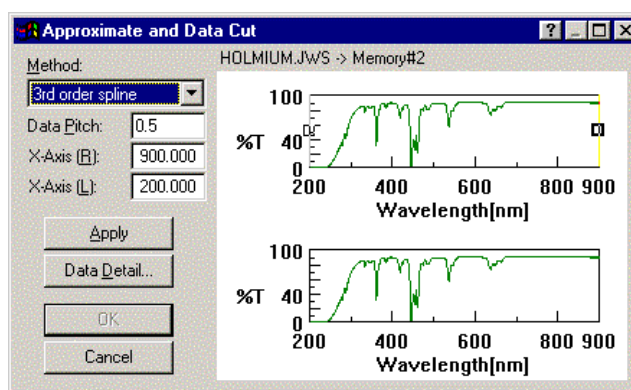

Fig 2.27 [Approximate and Data Cut] dialog box
*Note: Figure 2.27 shows spectra before execution of data interpolation and cut, therefore, the upper and lower spectra in the spectrum display area are the same. After execution, the resulting spectrum is displayed in the lower half of the spectrum display area.*